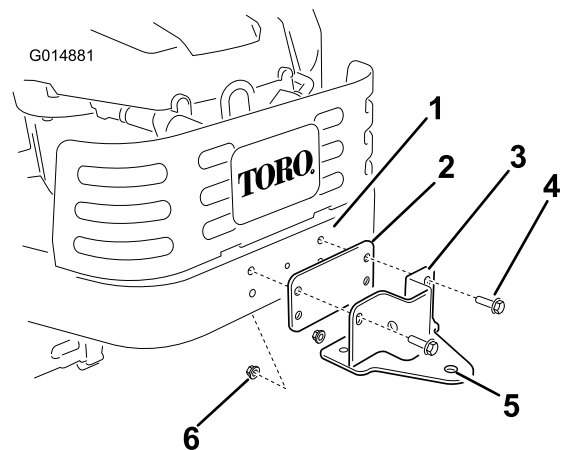

Figure 11
1. Locate the bagger frame support spacer plate and bracket in loose parts. Install the plate and bracket to the machine frame as shown in Figure 11. Secure the plate and bracket to the frame using two bolts (5/16 x 1 inch) and two lock nuts (5/16 inch).